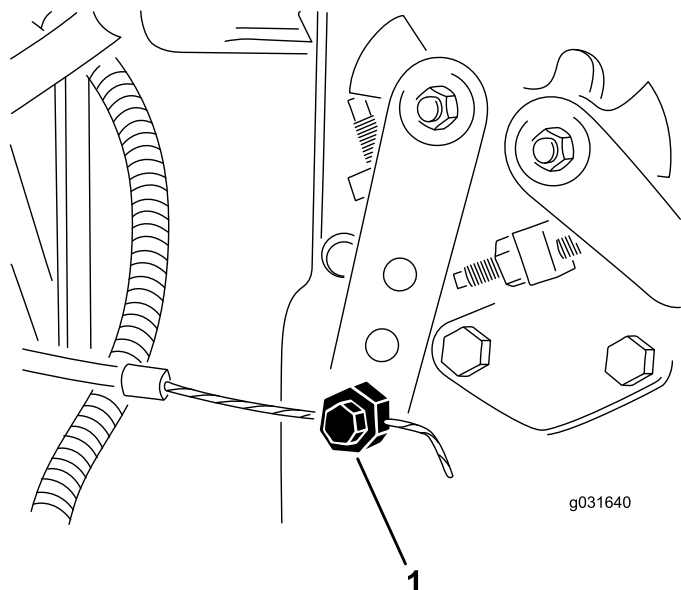

Figure 62
2. Loosen the throttle-cable connector on the injection-pump-lever arm (Figure 62).